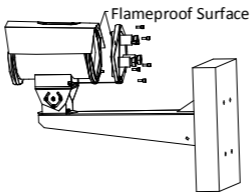

Figure 3-7 Remove the Back Cover
- Refer to Figure 3-7 for the entry places. The maximum permitted number of these entries is 3.